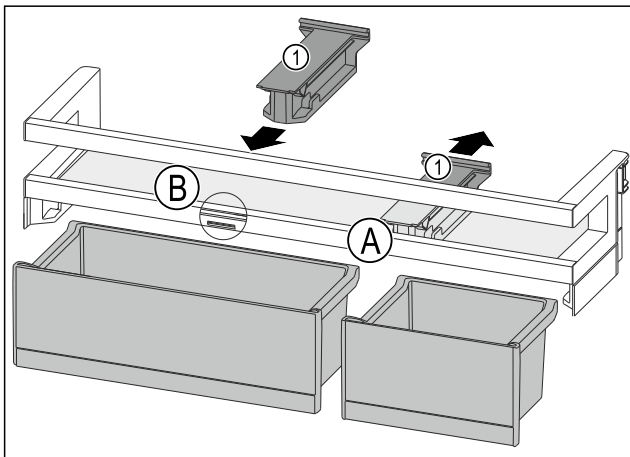

Fig. 112
- ▶ Take off the holding part Fig. 112 (1) in position Fig. 112 (A) backwards.
- ▶ Insert the holding part Fig. 112 (1) in position Fig. 112 (B).